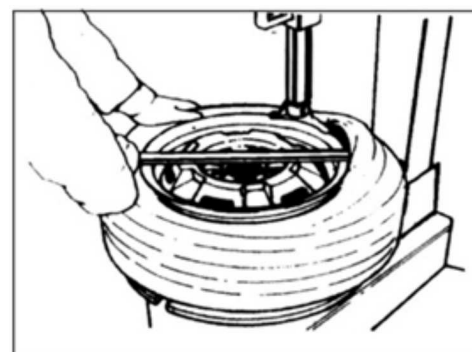

Fig. 20
- Lift the bead onto the mount/demount head with the crowbar, and step on the turntable control pedal (Fig. 2-8) to turn the turntable clockwise till the bead is completely separated (Fig. 20). It is suggested to place the mount/demount head about 10 mm to the right side of the air valve if the wheel has a tube, so as not to damage the tube.